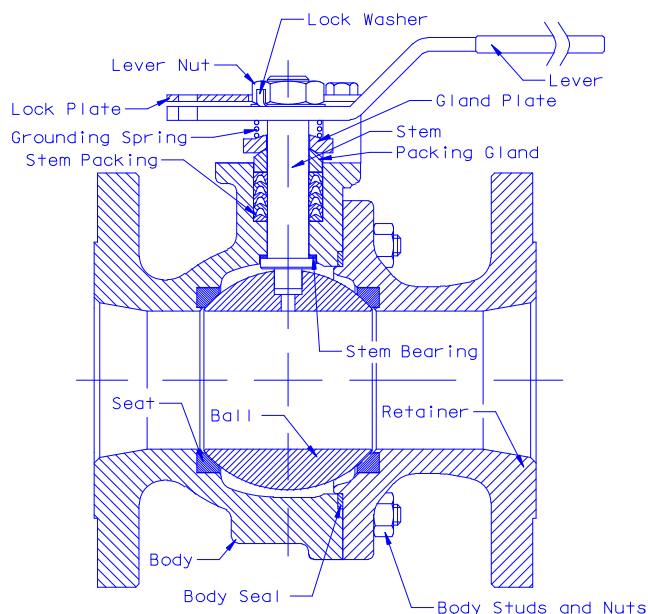

Figure 1: Typical Standard Port Valve Assembly
Limitations - Conditions supporting no greater than Category III valves. Valves are not to be used in safety functions such as safety loops or separating incompatible fluids. - For gases and liquids in Groups 1 & 2. - In-line service only, not recommended for end of line service. - Service to be compatible with the materials of construction. Prior to selection it is the user's responsibility to determine that the valve is appropriate for the intended application. Application not to allow corrosion $>.002"/\text{year}$ ($.05\text{mm}/\text{year}$). - The possibility of material deterioration in service and need for periodic inspections is the responsibility of the user. - Mechanical supports are not to be welded directly to the valve, however may be fitted to the associated piping. - It is the piping system designer's responsibility to implement appropriate protection measures to minimize reaction forces and moments, which result from supports, attachments, piping, etc. - Laws of the state must be observed as they apply. - In service inspections may be required by the national authorities of the country where the valve is installed. - Some National/Local authorities may require periodic hydrostatic testing. - Only use Conbraco replacement parts. - On-off service only (not to be used for throttling). - Valves are primarily intended for industrial use.	Installation Proper valve selection is the first step in any successful installation. Refer to an "Apollo Ball Valve Binder", where applicable for application guidance or contact your distributor or the factory for more detailed assistance. WARNING: All installations shall be provided with pressure relief devices in accordance with the requirements of the Pressure Equipment Directive 97/23/EC. Proper installation prior to initial operation is the user's responsibility. Furthermore where an additional hazard can occur due to valve exposure to fire or other unexpected external heat source, a supplemental pressure relief device shall be installed to protect against excessive pressure. This device shall prevent the pressure from rising more than 21% above the maximum allowable working pressure. Pre-Installation Inspection Inspect the piping system prior to valve installation whenever possible, to insure that it has been properly flushed and cleared of construction and fabrication debris. The seating surfaces in soft seated valves are particularly susceptible to weld slag and sand blasting grit. Pipe scale, metal chips and other foreign materials should be avoided. Just prior to installation, remove each valve from its packing, install handle and other parts if shipped loose (see figure 1) and remove any end covers. Examine the flow bore for debris. All Apollo ball valves are shipped in the open position to prevent damage to the ball surface. Any grit or foreign matter must be removed. Do not install a damaged valve. It is also important to check for valve operation clearances. If necessary, valves can be installed at angles other than upright or vertical.
- **Standard & Full Port only** Insert the retainer seat and place the retainer on the body. The ANSI flange bolting will always straddle the valve centerlines. See Figure 1. Loosely assemble the body bolting nuts.